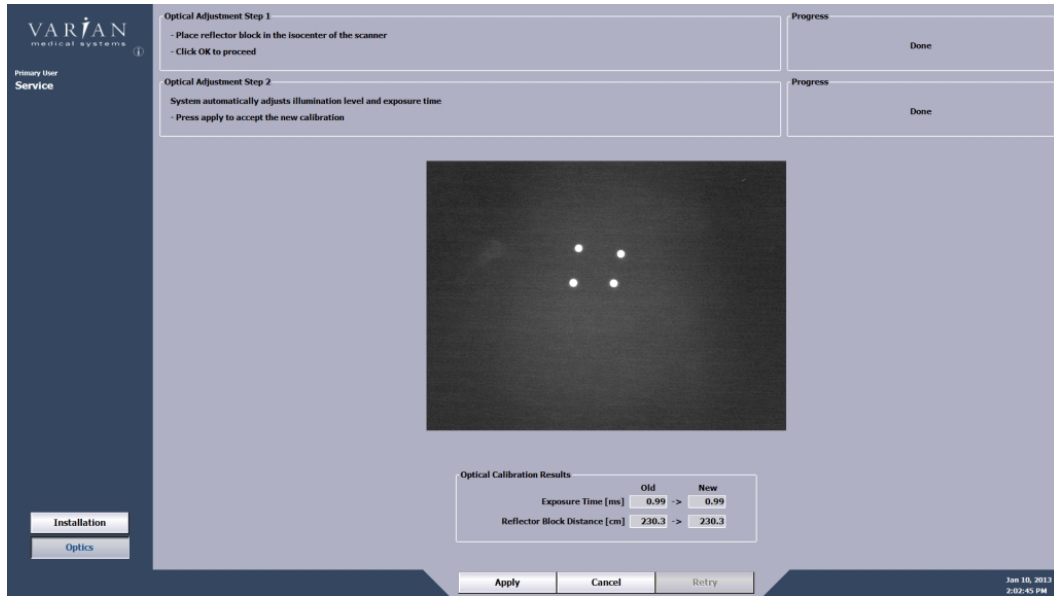

Figure 14: Adjustment of illumination level and exposure time
1. The system automatically adjusts the illumination level and the exposure time – refer to Figure 14.